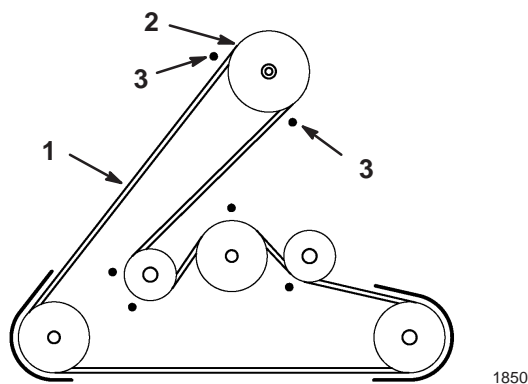

Figure 20
14. Remove the mower belt from the engine pulley (Fig. 20). If you are careful, you can flex the belt guide(s) just far enough away from the pulley to remove the belt. If it is too difficult to remove the belt, loosen the bolts and nuts securing the belt guides. Tighten the bolts.